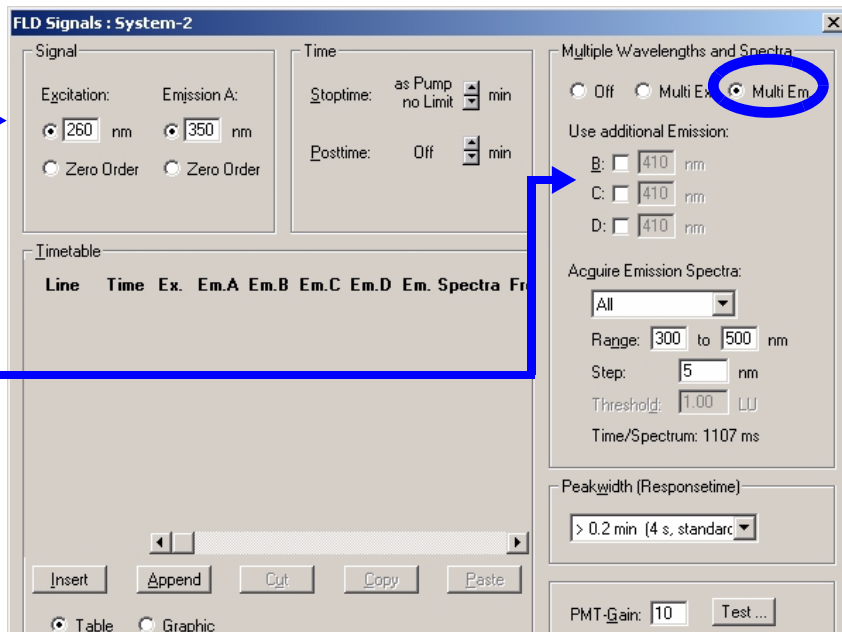

Figure 36 Detector Settings for Emission Scan
- 1 This example uses the following chromatographic conditions (the detector settings are shown in Figure 36 on page 79).